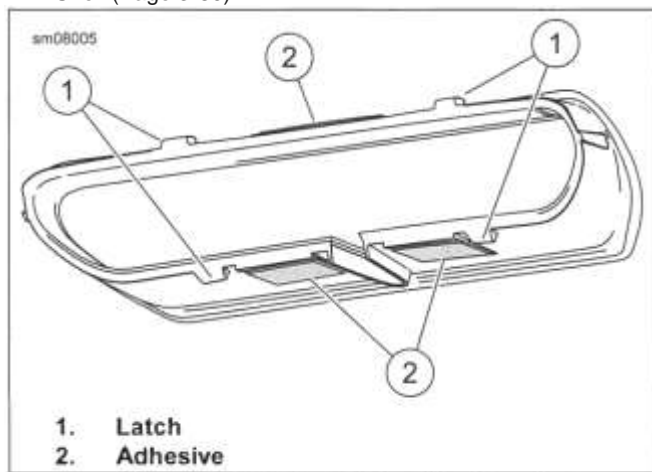

Figure 3-99. Outer Fairing Vent Bezel
- See Figure 3-99. From inside fairing, use a putty knife to release adhesive (2).
- Release latches (1). Remove bezel.